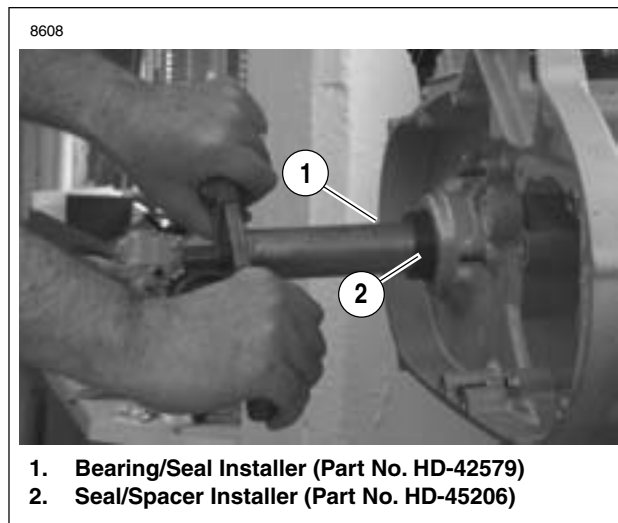

Figure 3-96. Install Bearing Seal/Spacer
11. See Figure 3-96. Install bearing seal and spacer.
- a. Center seal/spacer driver (2) over seal, so that the sleeve (smaller OD) seats between seal wall and garter spring.
- b. Assemble SPROCKET SHAFT BEARING/SEAL INSTALLATION TOOL (1) (Part No. HD-42579) and SPROCKET SHAFT SEAL/SPACER INSTALLER (Part No. HD-45206) onto sprocket shaft. Follow procedure in Step 8.